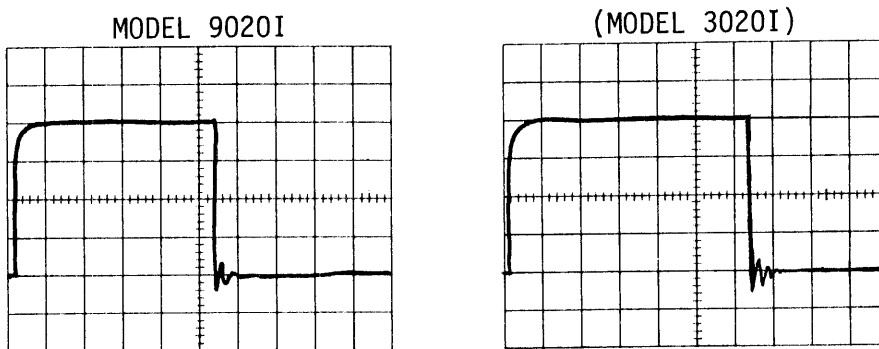

Figure A3-2. Read Data Pulse Timing
**A3.5.2 Read Data Pulse (RDP) Timing (Figure A3-2)**